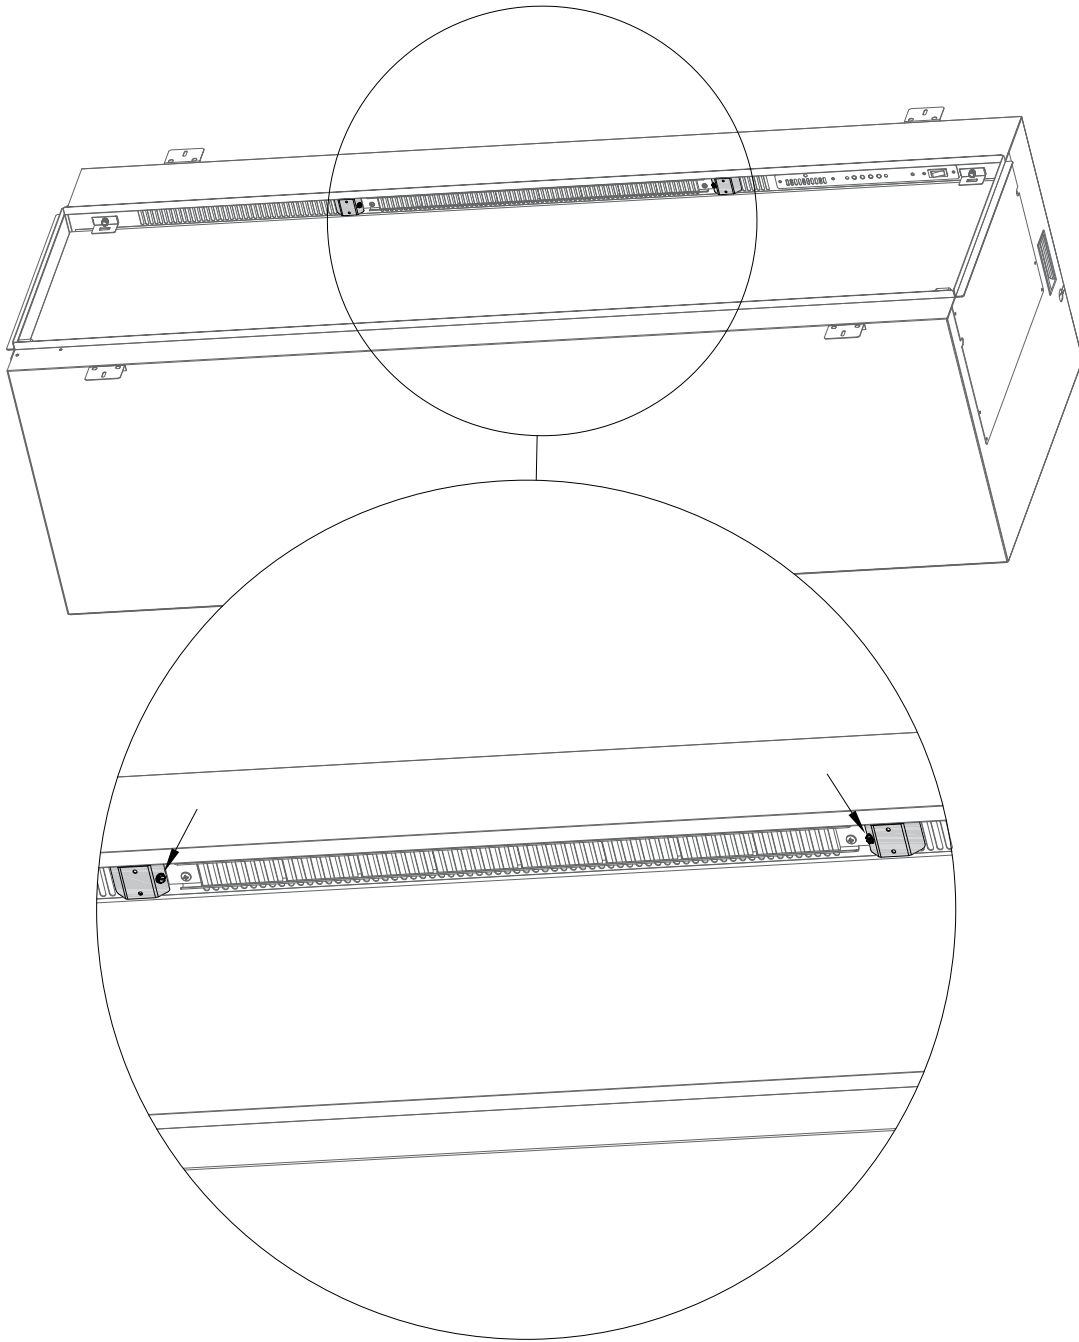

Figure 2.11 - Install Base Brackets
3. Next install the base brackets as shown in Figure 2.11.